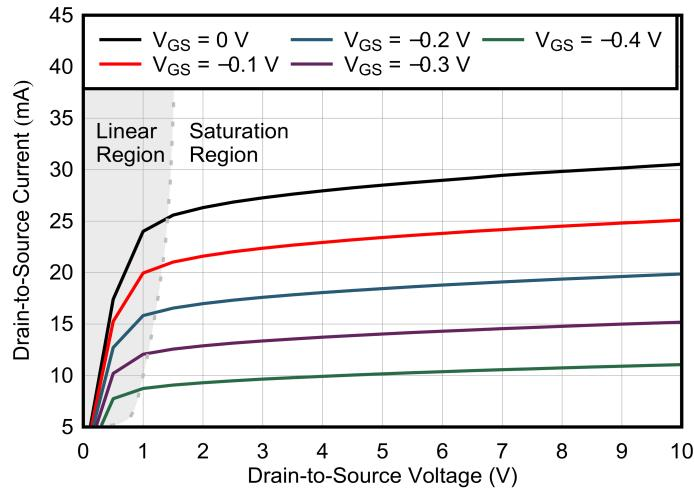

Figure 8-1.  $V_{DS}$  vs  $I_{DS}$
- For  $V_{GS} > V_{GSC}$ : Two modes of operation can exist depending on  $V_{DS}$ . When  $V_{DS}$  is less than the linear (saturation) region threshold (see Figure 8-1), the device operates in the linear region, meaning that the device behaves as a resistor connected from drain-to-source with minimal variation from any changes in  $V_{GS}$ . When  $V_{DS}$  is greater than the linear (saturation) region threshold,  $I_{DS}$  has a strong dependence on  $V_{GS}$ , where the relationship is described by the parameter  $gm$ .